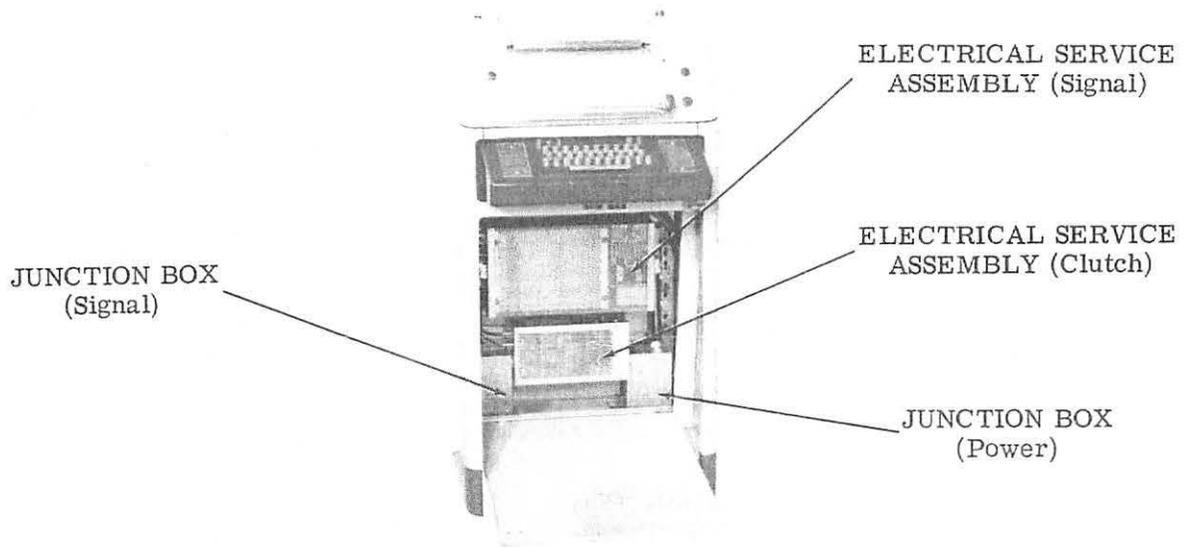

Figure 2 - Floor Model Keyboard Send-Receive (KSR) Set
B. Keyboard Send-Receive (KSR) Set (Figure 2)